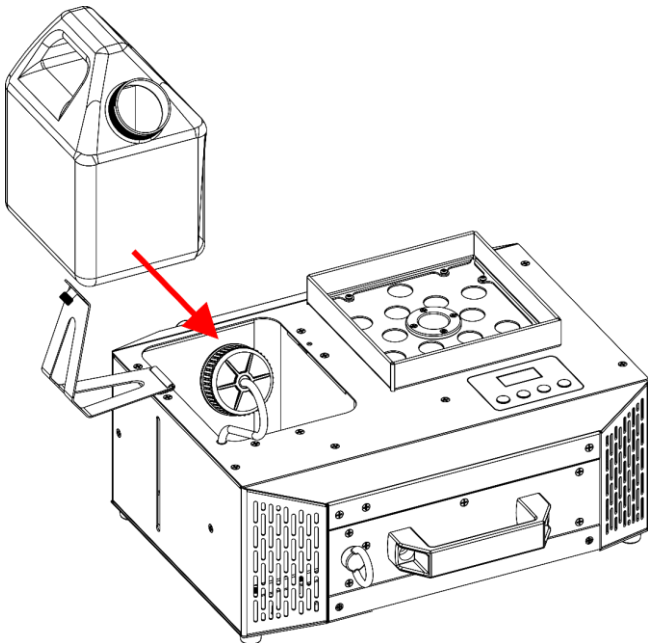

Fig. 34
09) Put the **fluid tank (02)** back in the device, as shown in Fig. 34.